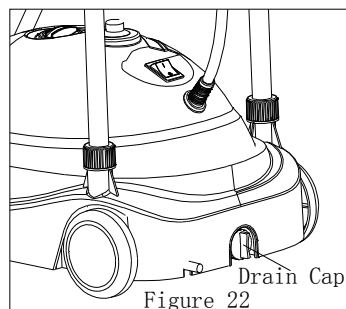

Figure 22
5. Drain any remaining water in water reservoir into a sink or tub by turning and removing the draining cap at back of the appliance, as shown in figure 22. Do not forget to put the draining cap in place after draining.